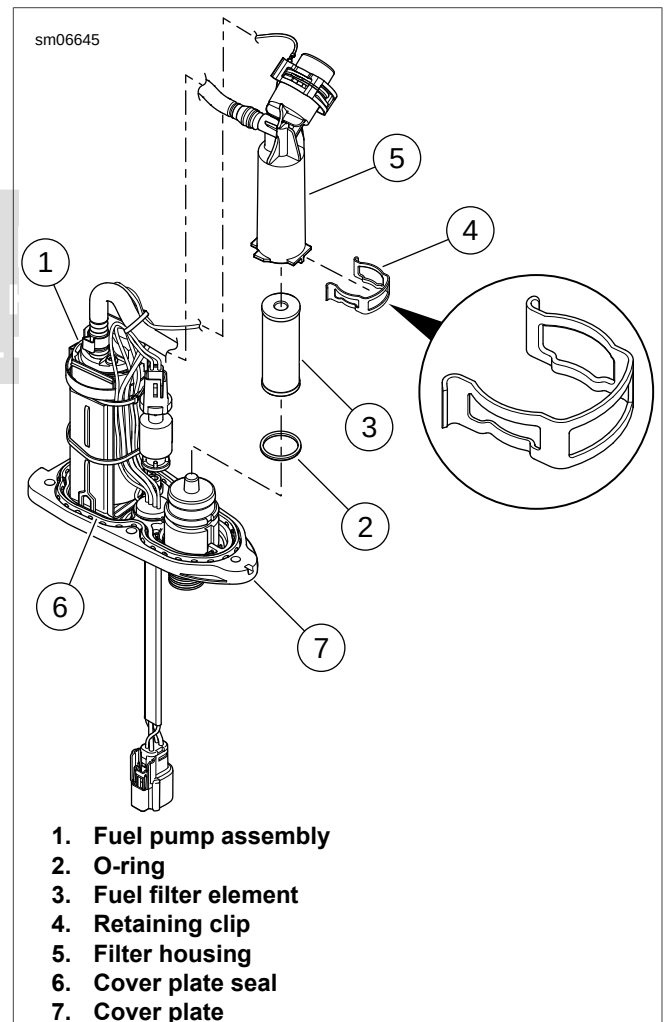

Figure 4-80. Replacing Fuel Filter Element
6. See Figure 4-80. Remove and discard cover plate seal (6).
7. Remove retaining clip (4) and lift filter housing (5) off fuel pump assembly (1).
8. Remove and discard filter element (3).
1. See Figure 4-80. Install a new O-ring (2).
2. Install **new** filter element (3) into filter housing (5).
3. Install filter housing onto base of fuel pump assembly (1). Secure with retaining clip (4), making sure that clip is oriented right side up, exactly as shown in the figure.
4. Install **new** cover plate seal (6) into groove in cover plate (7).